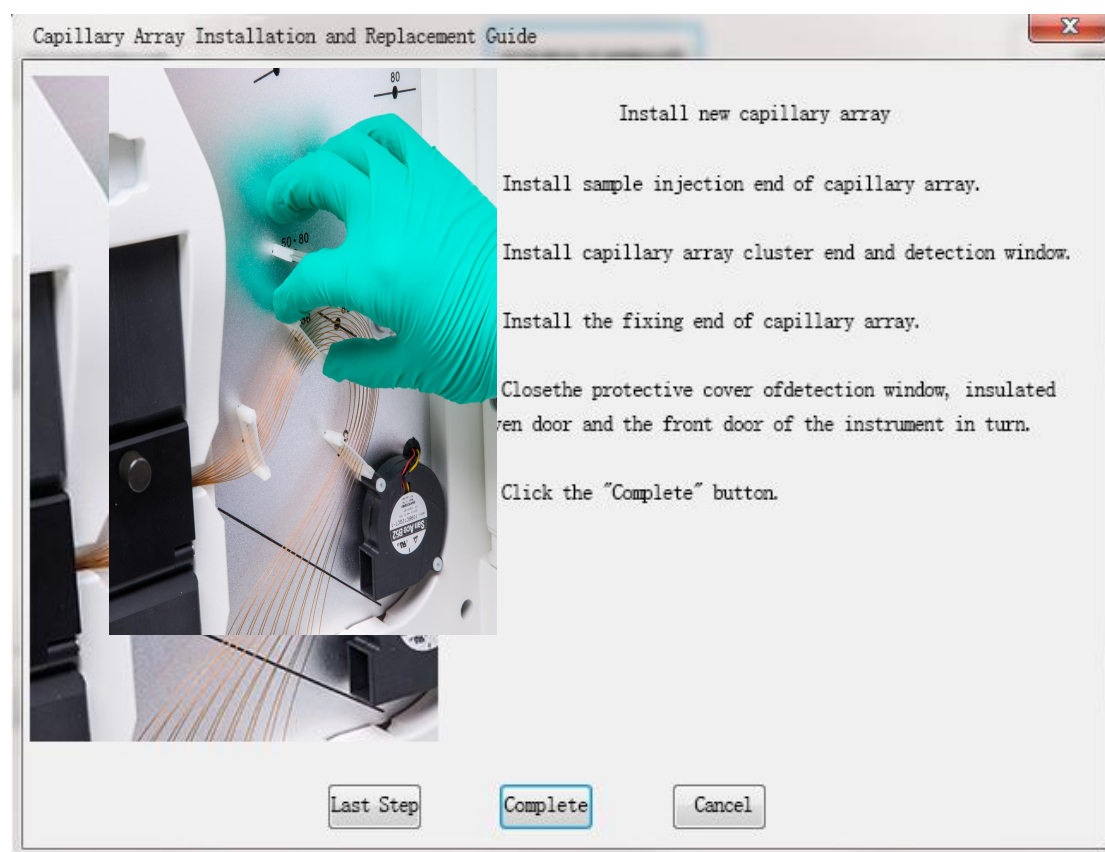

Figure 7. Installation of New Capillary Array
(7) Gently tighten the knob of the cluster end to ensure no gel leakage.
(8) Cover the protective cover of the instrument detection window, tighten the fixing screw, check if all fixing combs are fixed well, and if the capillary bending is smooth.
(9) Close the door of the insulated oven and the front door of the instrument.
(10) Click the “Finish” button to complete the installation of capillary array, as shown in Figure 7.